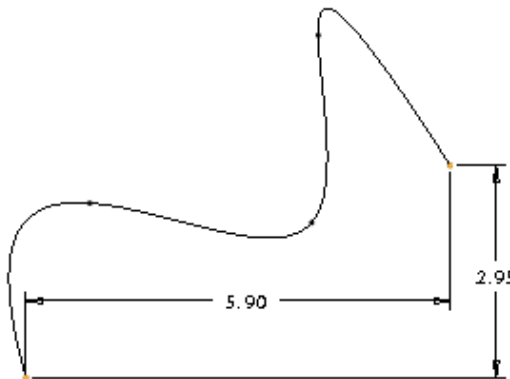

Figure 3-15 Endpoint dimensioning
2. Select the two endpoints of the spline and place the horizontal or vertical dimension by pressing the middle mouse button. Figure 3-15 shows a spline that is dimensioned by selecting the endpoints.